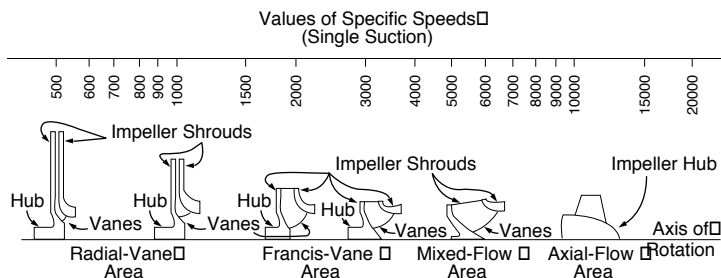

Figure 34. Impeller Profile vs. Specific Speed
- Figure 34 shows the relationship of specific speed to single-suction impeller profiles.